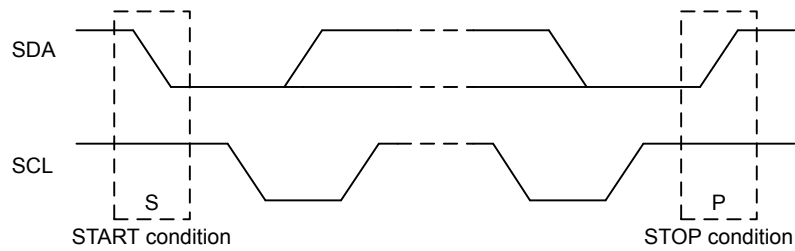

Figure 18.4. I²C START and STOP Conditions
START and STOP conditions are used to initiate and stop transactions on the I²C-bus. All transactions on the bus begin with a START condition (S) and end with a STOP condition (P). As shown in Figure 18.4 I²C START and STOP Conditions on page 522, a START condition is generated by pulling the SDA line low while SCL is high, and a STOP condition is generated by pulling the SDA line high while SCL is high.